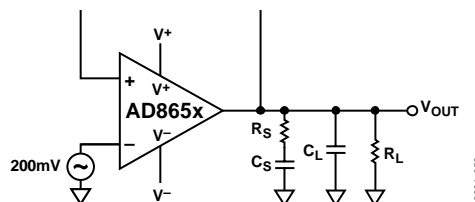

Figure 57. Snubber Network
- Another way to stabilize an op amp driving a large capacitive load is to use a snubber network, as shown in Figure 57. Because there is not any isolation resistor in the signal path, this method has the significant advantage of not reducing the output swing. The exact values of  $R_S$  and  $C_S$  are derived experimentally. In Figure 57, an optimum  $R_S$  and  $C_S$  combination for a capacitive load drive ranging from 50 pF to 1 nF was chosen. For this,  $R_S = 3 \Omega$  and  $C_S = 10 \text{ nF}$  were chosen.